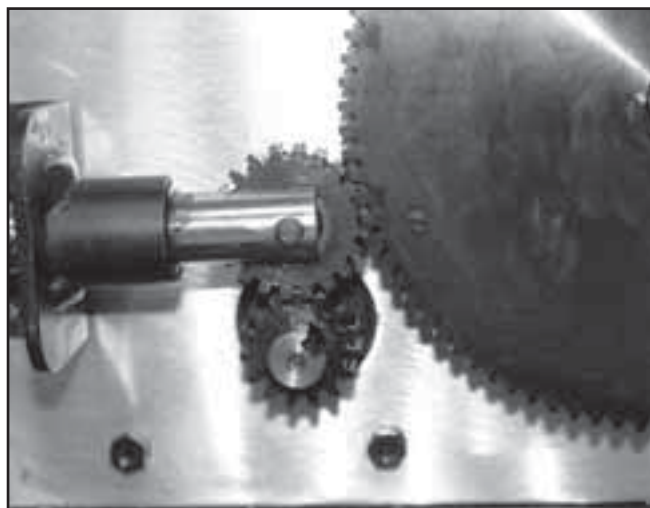

FIGURE 5.13
- 2) Solenoid Gear does not properly engage the large Driven Gear. See Figure 5.13. Adjust Solenoid Assembly. Refer to page 46, parts A through D for adjustment.